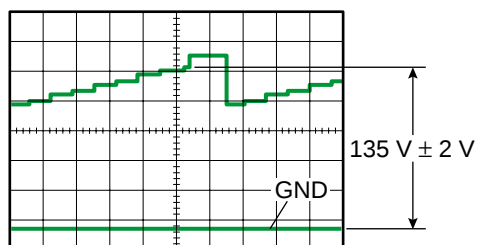

Fig. 4-1
- Adjust STD BRIGHT by pressing the Increment Button (+) or the Decrement Button (-) so that G Pedestal becomes $135\text{ V} \pm 2\text{ V}$ as shown in Fig. 4-1.